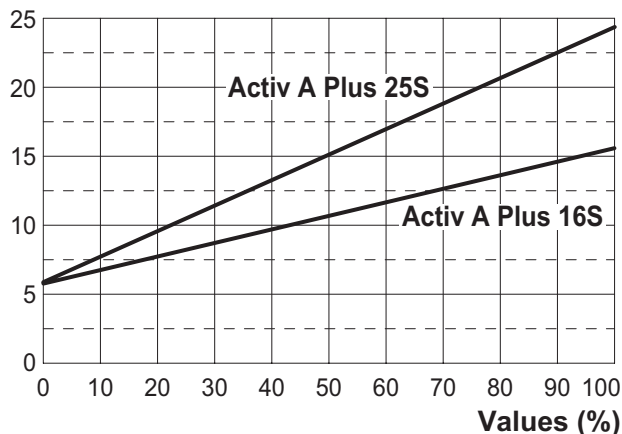
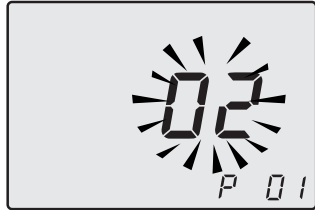
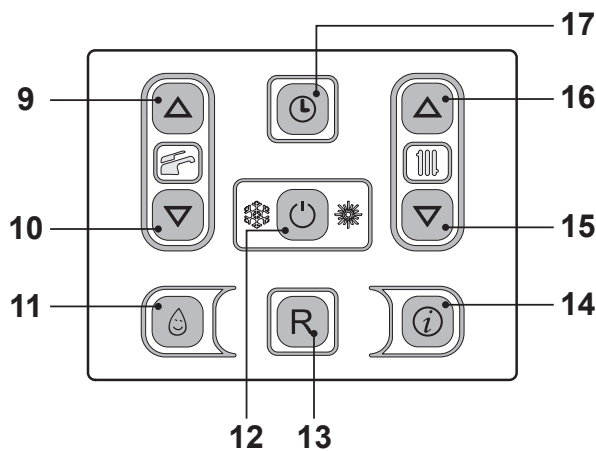

Fig. 7.41
Fig. 7.42
Fig. 7.43
Refer to Fig. 7.41 and determine the correct Value appertaining to the output required for the central heating requirement.
keys 12 - 15 - 16 (Fig. 7.43) for 10 seconds at the same time until the letters **P01** are displayed on the LCD display, indicating that "parameter 01" (Fig. 7.42) has been activated.
- It is possible to modify parameter using keys 9 or 10 (Fig. 7.43) (Refer to Fig. 7.41 and determine the correct Value appertaining to the output required for the central heating requirement.).
- By pressing key 12 (Fig. 7.43) confirmation of the inserted value is obtained.
- Press keys 15 or 16 (Fig. 7.43) to exit without changing the value.